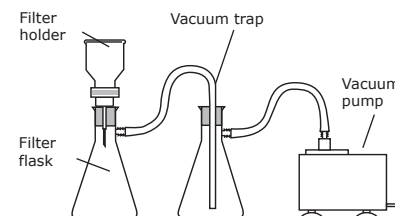

Figure 2. Vacuum trap pump protection.
- The pump can alternatively be protected by a flask vacuum trap consisting of a 1 liter filtering flask (XX1014705), No. 8 stopper and silicone tubing (Figure 2). When using the flask vacuum trap, it is not necessary to use the Millex®-FG₅₀ filter. For best results, keep the tubing between the pump and equipment as short as possible. Additional accessories available in Product Ordering \(p.8\).